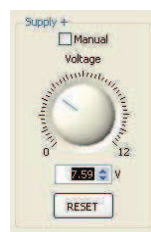

Figure 7
13. Set the Variable Power Supplies positive output voltage to exactly 7.59V by typing that value into the *V* window as shown in Figure 7 below.